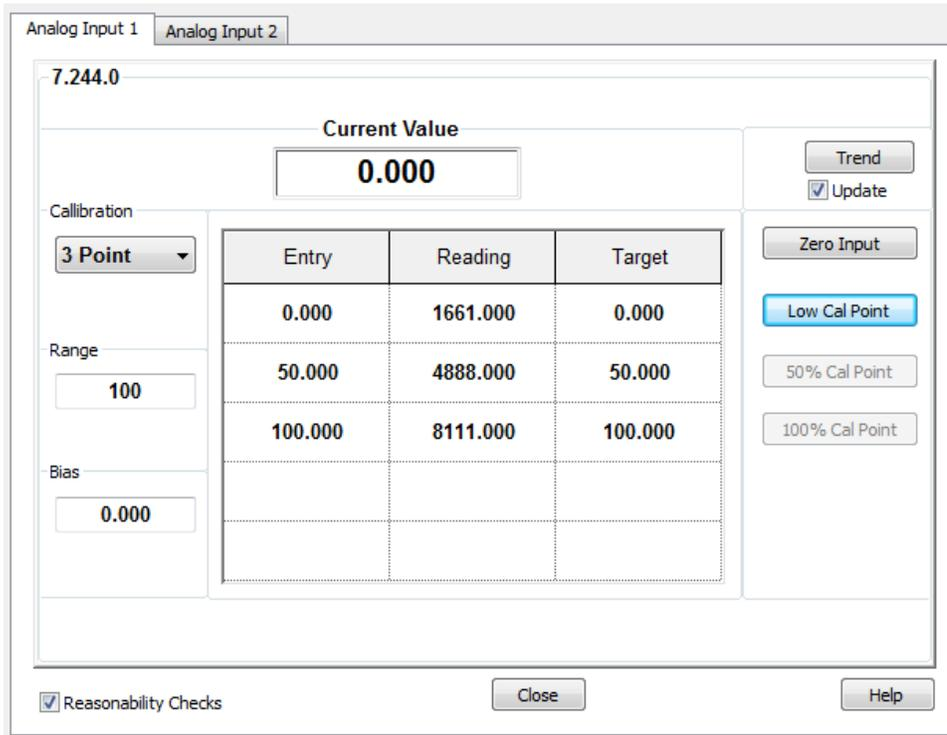

Figure 105: Low range value verification
3. Verify that the **Current Value** field displays a value equal or close to the target range low (0%) value (Figure 105).